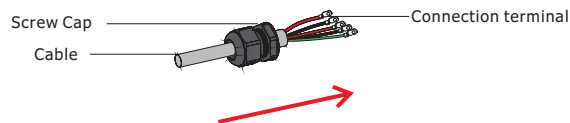

Figure 4.3-4 The AC cable passes through the terminal cover
Step 2. Peel off the skin of the AC cable and thread the AC cable through the Screw Cap. See Figure 4.3-4.